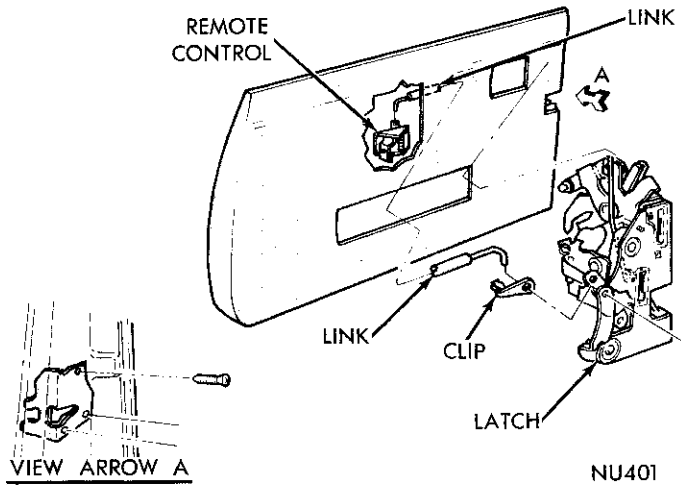

Fig. 25—Latch Control
- (1) Disconnect handle to latch link (Fig. 25), from latch by pulling link outward.
- (2) Disconnect locking lever rod (front door only) from latch.
- (3) Disconnect control rod from latch.
- (4) Remove latch to door screws.
- (5) Rotate latch and disconnect remote control link when removing.
- (6) Lubricate all moving parts of latch.